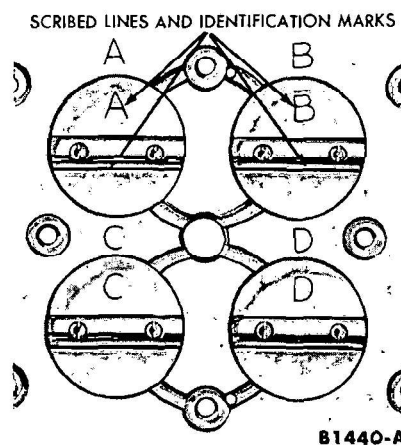

FIG. 16—Throttle Plate Removal—Holley 4-V
4. If it is necessary to remove the throttle plates, lightly scribe the throttle plates along the throttle shaft, and mark each plate and its corresponding bore with a number or letter for proper installation (Fig. 16). Remove the throttle plates. The retaining screws are staked to the throttle shaft. If the tips of the screws are flared excessively, file off the flared portion to avoid damage to the threads in the throttle shaft. Be careful not to damage the throttle shaft or venturi while filing the screws.